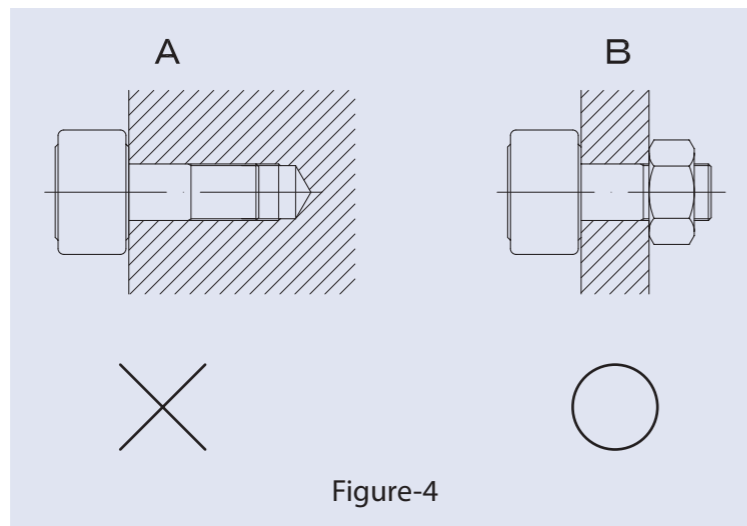

Figure-4
- Mounting method to tighten cam follower directly to bracket by adding female thread to it without using nut as depicted in Figure-4 (A) is NOT recommended. This method may cause damage on stud due to concentration of bending stress in male thread portion in the event of loosening since it is difficult to tighten the stud sufficiently.